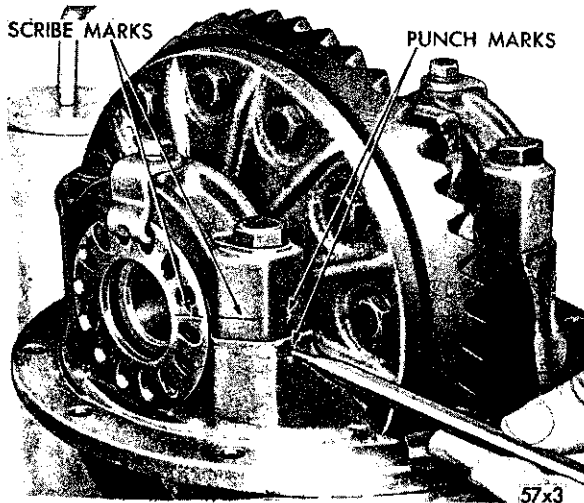

Fig. 8—Marking Bearing Caps and Adjusting Nuts
(3) Apply identifying punch marks on the bearing supports of the differential carrier, differential bearing caps, and bearing adjusters for reassembly purposes (Fig. 8).
(4) Remove each of the differential bearing adjuster lock screws and locks.
(5) With a 3/4 inch socket wrench, loosen the bearing cap bolts (one on each side) and back off the bearing adjusters slightly with spanner wrench Tool C-406, to remove the differential case bearing preload. Remove the bearing cap bolts, caps and bearing adjusters.
(6) Remove the differential assembly with the bearing cups. Make certain that each bearing cup remains with its respective bearing.